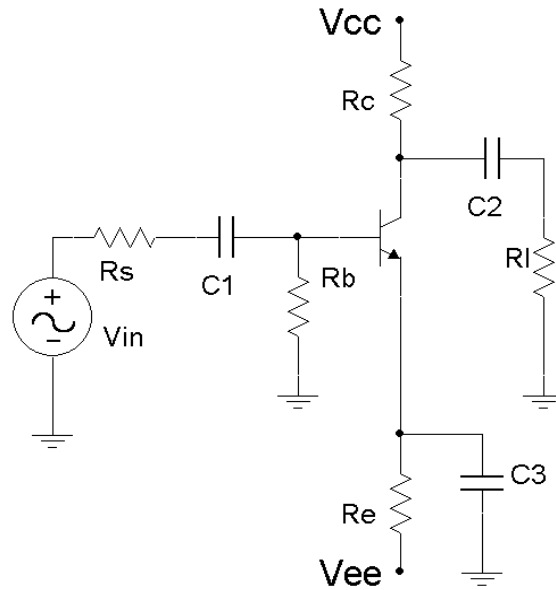

Figure 9.1
1. Consider the circuit of Figure 9.1 using  $V_{cc} = 15$  volts,  $V_{ee} = -12$  volts,  $R_s = 10$  k $\Omega$ ,  $R_b = 33$  k $\Omega$ ,  $R_e = 22$  k $\Omega$ ,  $R_c = 15$  k $\Omega$ ,  $R_{load} = 20$  k $\Omega$ ,  $C_1 = C_2 = 10$   $\mu$ F and  $C_3 = 470$   $\mu$ F. Using the approximation of a negligible base voltage, determine the DC voltages at the base, emitter, and collector along with the collector current, and record these in Table 9.1.
2. Build the circuit of Figure 9.1 using  $V_{cc} = 15$  volts,  $V_{ee} = -12$  volts,  $R_s = 10$  k $\Omega$ ,  $R_b = 33$  k $\Omega$ ,  $R_e = 22$  k $\Omega$ ,  $R_c = 15$  k $\Omega$ ,  $R_{load} = 20$  k $\Omega$ ,  $C_1 = C_2 = 10$   $\mu$ F and  $C_3 = 470$   $\mu$ F. Make sure that the AC source is turned off or disconnected. Measure the DC voltages at the base, emitter, and collector along with the collector current, and record these in Table 9.1. Note, you may wish to use a transistor curve tracer or beta checker to get approximate values of beta for each of the three transistors to be used.